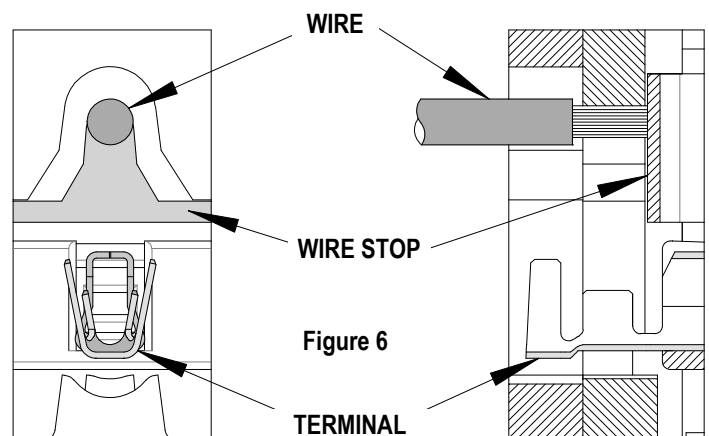

Figure 6
9. On some large O.D. wires, it may not be possible to insert the wire with the tool partially closed. Those wires should be inserted with the hand tool in the open position. Insert the wire above the terminal in the punch and against the wire stop then close the tool. See Figure 6.